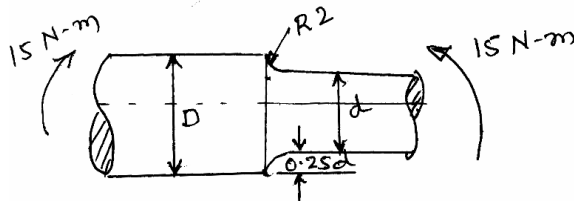

Fig. Q2 (b)
- c. Derive an expression for impact stress in a axial bar of cross section 'A' and length 'L' due to the impact of a load 'W' falling from a height 'h' on the bar, as shown in Fig. Q2 (c). (05 Marks)